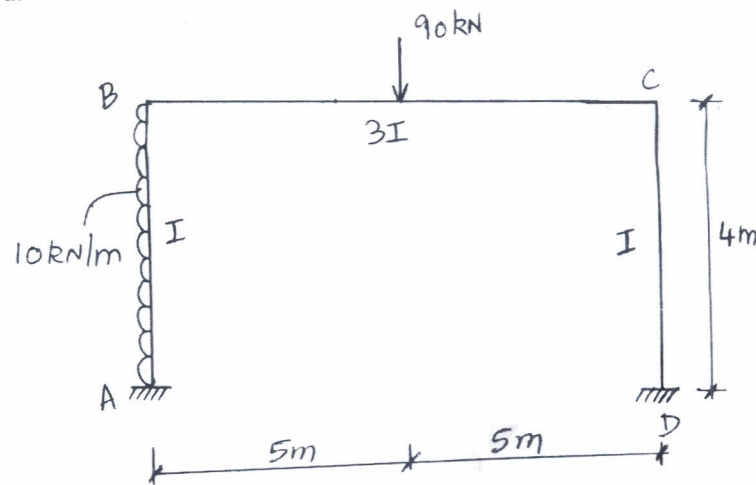

Fig.Q.8
- Analyze the portal frame subjected to loads as shown in Fig.Q.8. Consider sway effects also draw bending moment diagram. By slope deflection method.